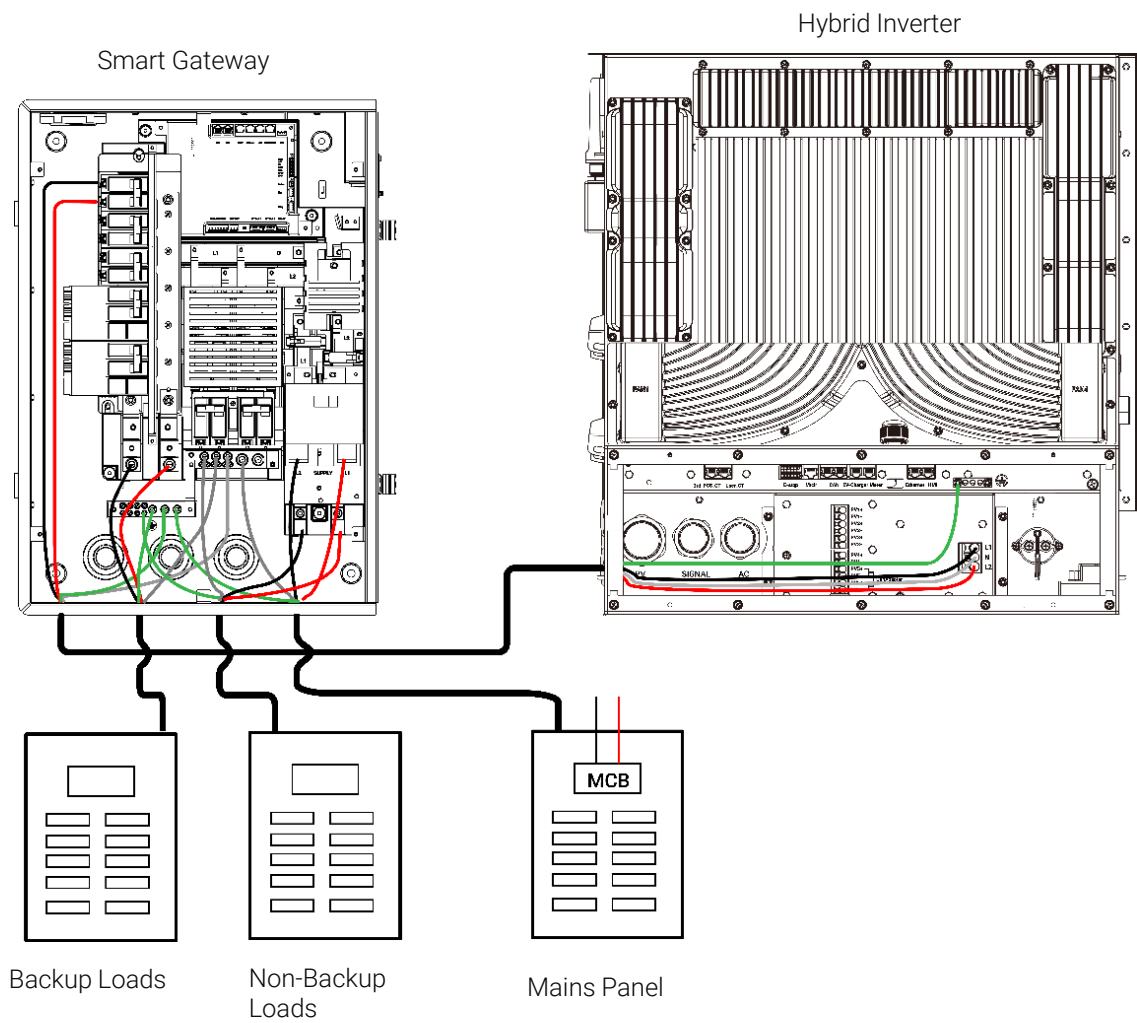

**Figure 6. Smart Gateway Backup Load Wiring**
- Select an appropriate knockout for the load on the bottom of the Smart gateway to install the cable gland. (Ref. to Figure 6.)
b. Route the load power cable through the conduit and connect it to the smart gateway load terminal. (Ref. to Figure 6.)
- Route the load power cable through the conduit and connect it to the smart gateway load terminal. (Ref. to Figure 6.)